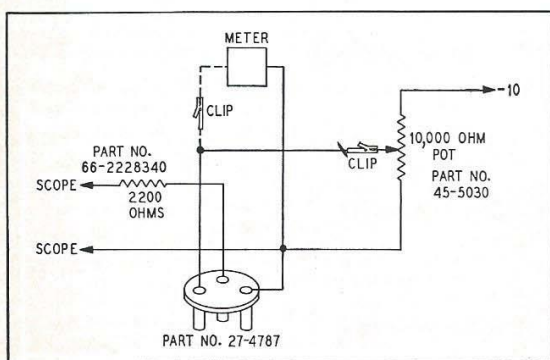
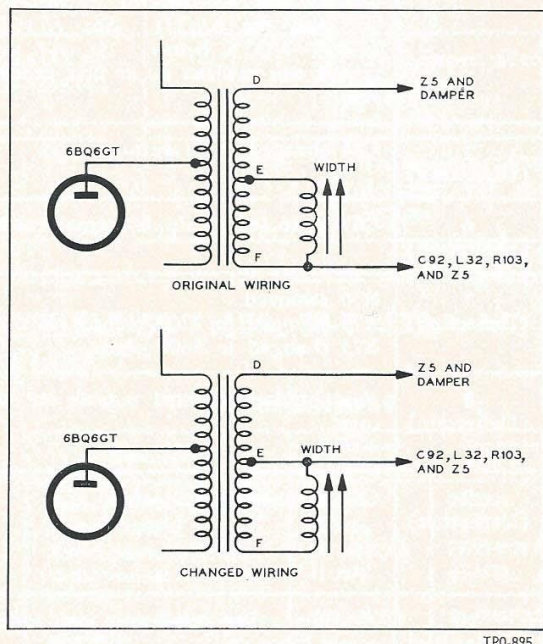

Figure 3. Correct Wiring for ALIGN TEST Jack Adapter, for Models 50-T1600, 50-T1632, and 50-T1633
Figure 5. Wiring Changes in Horizontal-Output-Transformer Secondary, Models 50-T1600, 50-T1632, and 50-T1633
- The ALIGN TEST jack adapter shown on page 6, figure 5, should be wired as shown in figure 3.
15. The width coil was rewired as shown in figure 5.